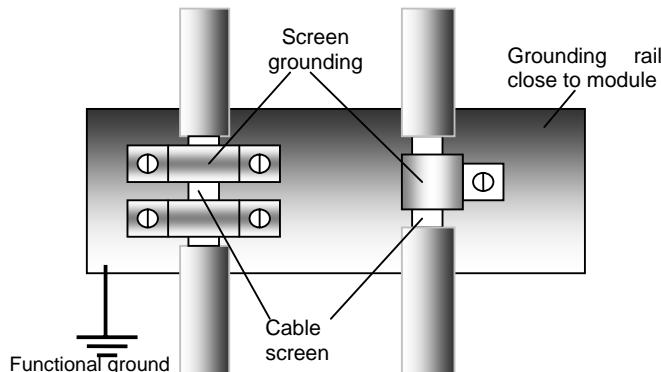
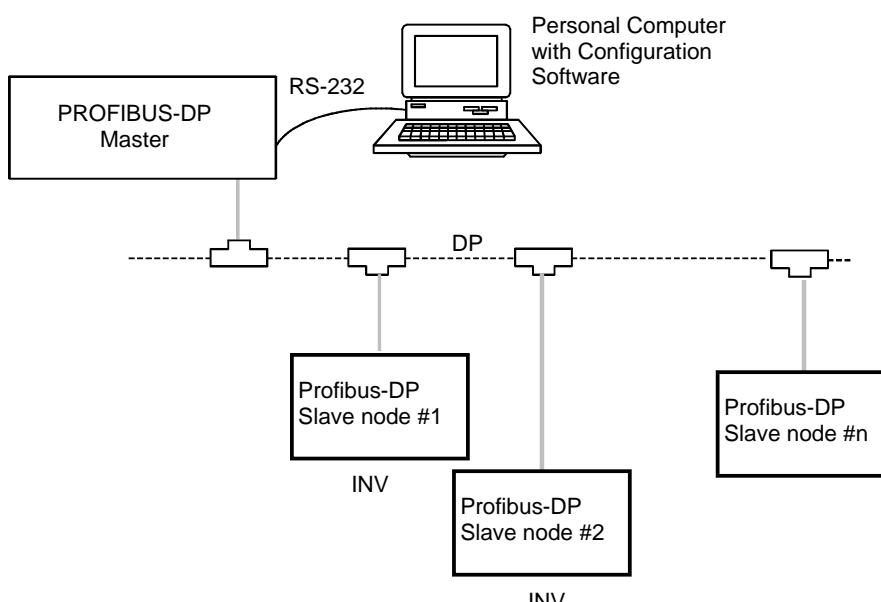

Figure 3-1 Cable Grounding Wiring Example
Figure 3-2 System Construction Example
4. In order to avoid noise problems, the shield of the bus cable should be grounded by clamping it to a metal surface connected to PE for proper grounding. Refer to Figure.3-1.
- (b) When the master detects a communication fault, turn on the intelligent input terminal which would be allocated (FRS), (RS) and/or (EXT) function.
7. Figure 3-2 demonstrates the basic components for construction of Profibus-DP application system.